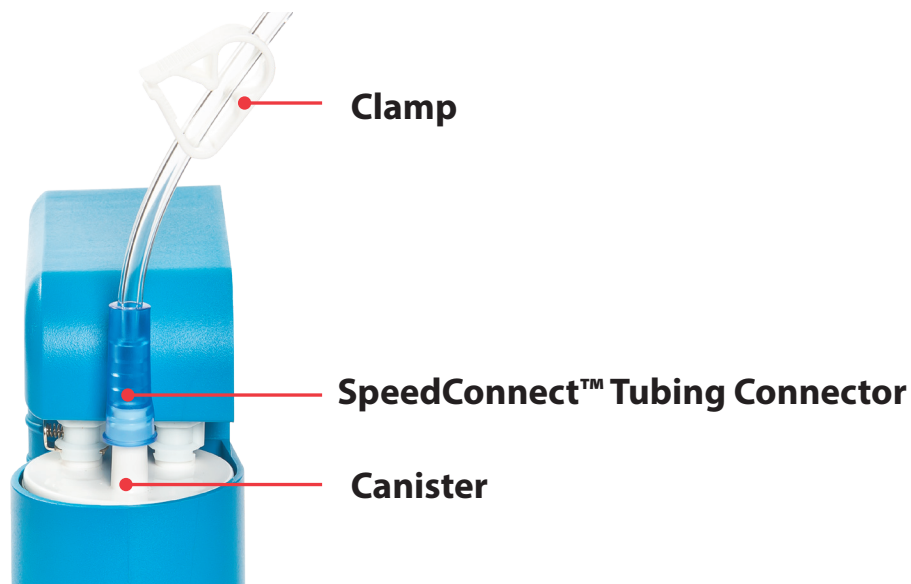

Figure 3
1. Clamp the tubing closed (**Figure 3**).
3. Remove the blue SpeedConnect™ tubing connector from the top of the canister (**Figure 3**) by twisting off the tapered connector.